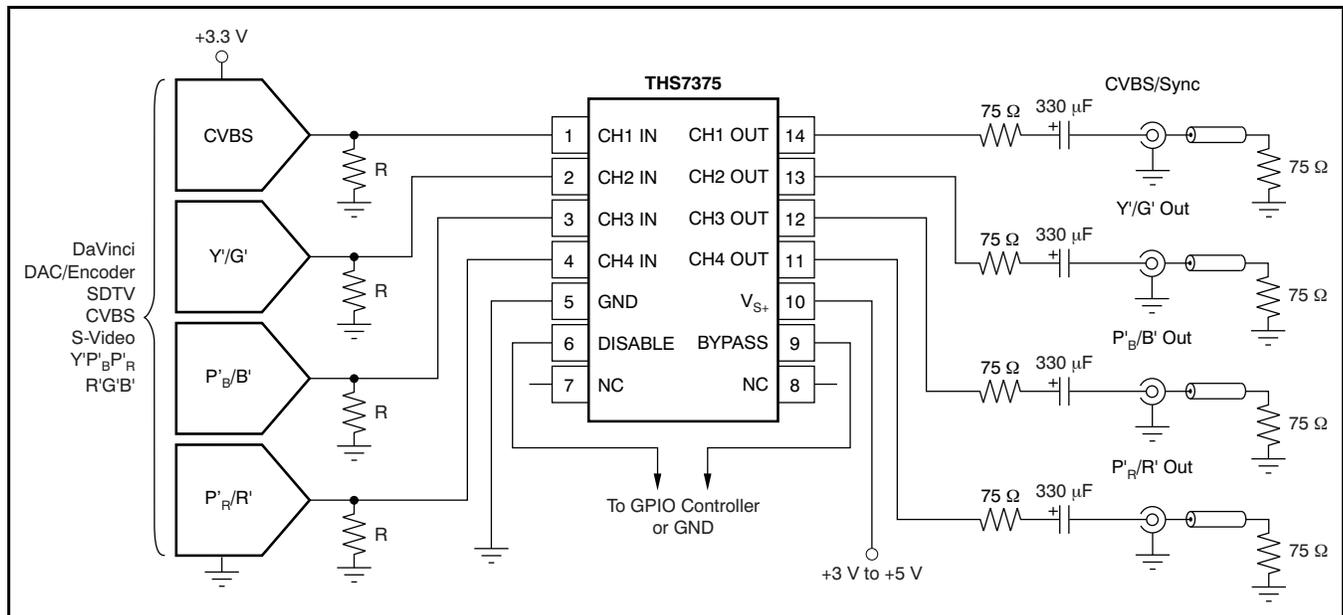

Figure 48. Typical SDTV CVBS/Y'P'B'P'R Inputs from DC-Coupled Encoder/DAC with AC-Coupled Line Driving
A typical application circuit that uses the THS7375 as a video buffer is shown in Figure 48. It shows a DAC or encoder driving the input channels of the THS7375. One channel is a composite video (CVBS) channel of a standard definition (SD) video system. The other channels are the component video Y'P'B'P'R (sometimes labeled Y'U'V' or incorrectly labeled Y'C'B'C'R) signals of a 480i or 576i system. These channels could easily be the S-Video Y'/C' channels or the R'G'B' channels of a SCART system.